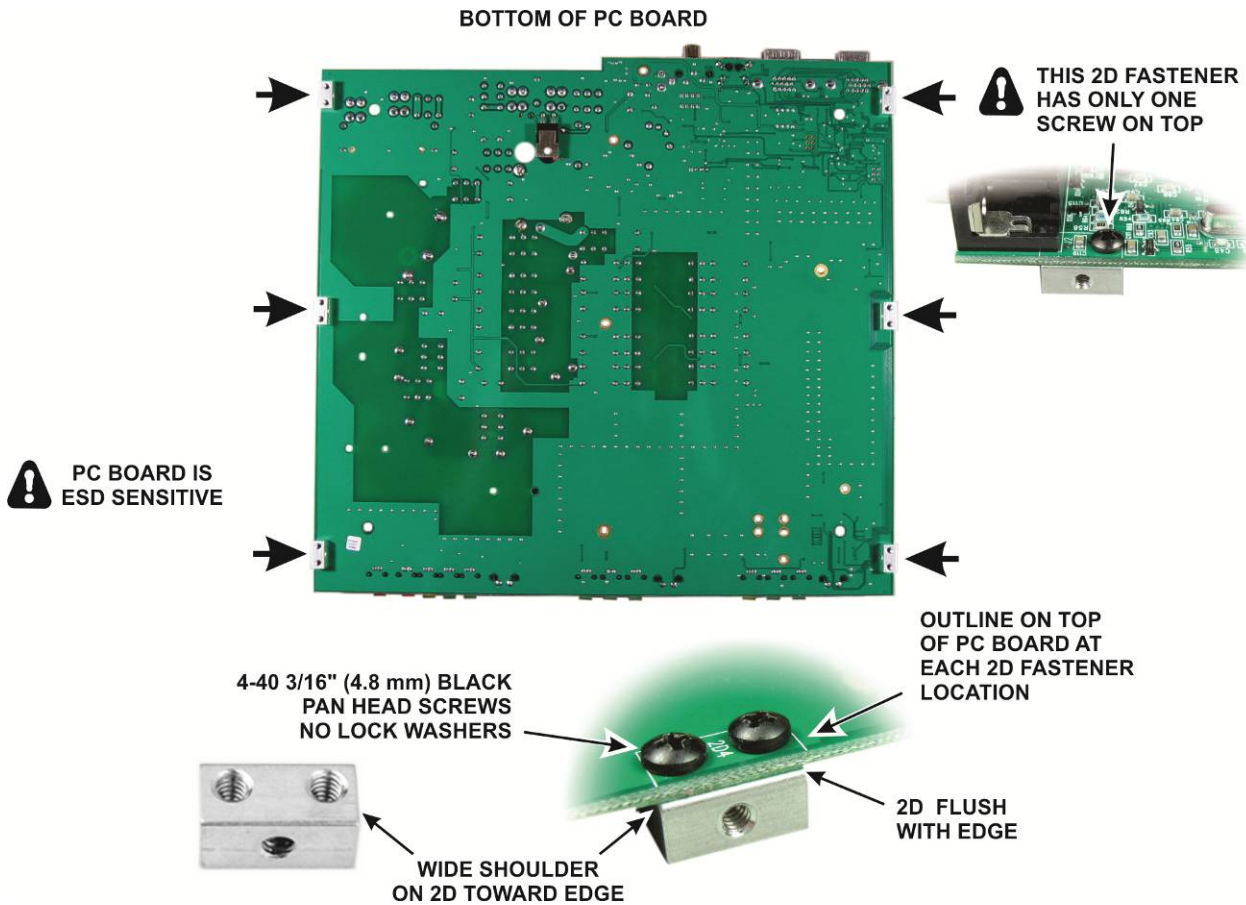

Figure 10. Installing the 2D Fasteners.
Figure 10. Be careful not to disturb any of the inductors on the top side, especially the air wound coils, or the position of the resistor mounted on the bottom.
- The 11 screws along the sides of the pc board (Figure 10, page 35).